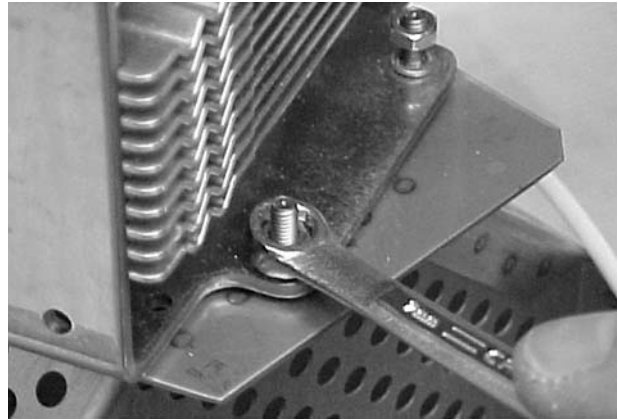

Figure 4-18 Removing the Magnetron
5. See Figure 4-18. Using a wrench, remove the four nuts that secure the magnetron to the lamp head base. Remove the magnetron.